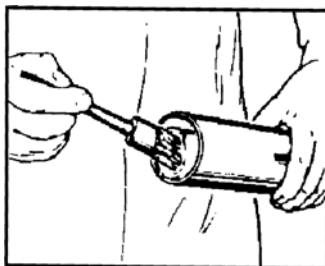

Fig.5
9. Grease the profile tubes (Fig.5)